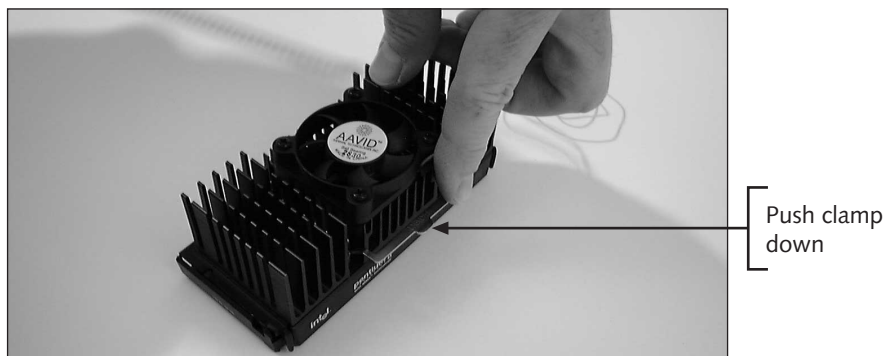

Figure 15-8 Push the clamp on the fan down until it locks in place, locking the fan to the SECC
- After the fan and SECC are fitted together, place the SECC on a table and push the clamp on the fan down and into place, to secure the fan to the SECC (see Figure 15-8).